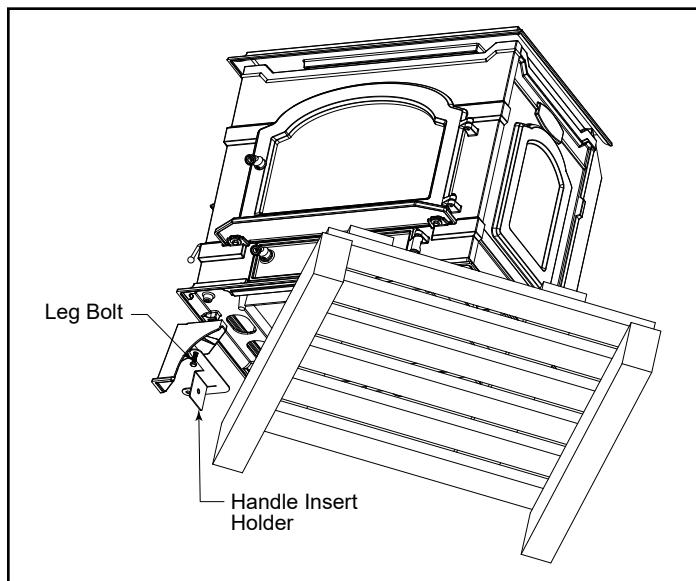

Figure 25 - Rotate stove on pallet to expose front left corner.
2. Rotate the stove counterclockwise until the front left corner overhangs the pallet and the leg-mounting hole is accessible. (Figure 25)
3. Remove and discard the (4) 3/8-16 x 1/2" round head bolts that are in the leg holes on the bottom of the stove.
4. In the hardware bag, locate the four legs, the door handle insert holder, (on this leg only, the door handle insert holder is used along with a washer), (4) 3/8-16 x 1" leg bolts and four (4) washers.